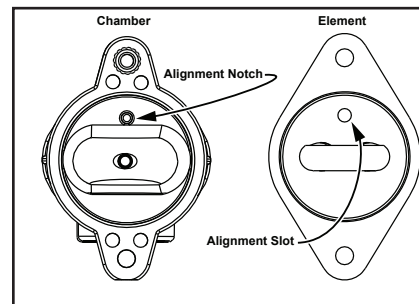

Figure 14 - Chamber Alignment Notch, Element Slot.
**2** Install the element, mating the element slot with the chamber alignment notch. Secure the element by sequentially tightening the mounting bracket screws. DO NOT overtighten screws. See Figure 14.